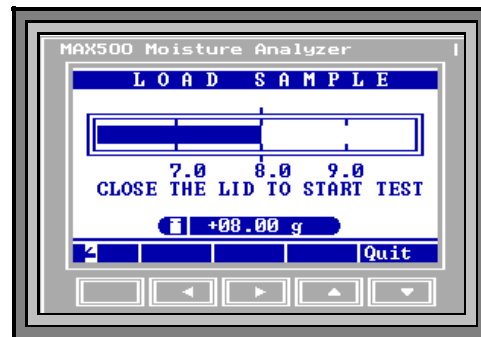

Figure 4 WEIGHT DISPLAY
- 3.6.3 While a test is in progress, the horizontal bar is not displayed. Only the weight in grams is displayed at the bottom center of the screen (shown as +08.00 grams in **Figure 4**).